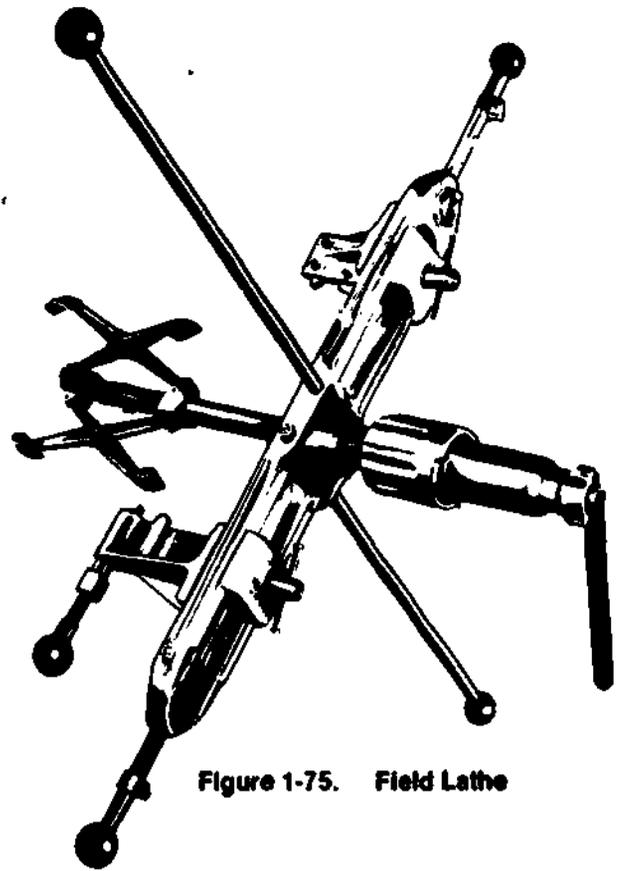

Figure 1-75. Field Lathe
d) Figure 1-75 shows a larger type of field lathe that will machine ends of asbestos cement pipe from 100 mm to 350 mm. It is also available with an electric power drive.